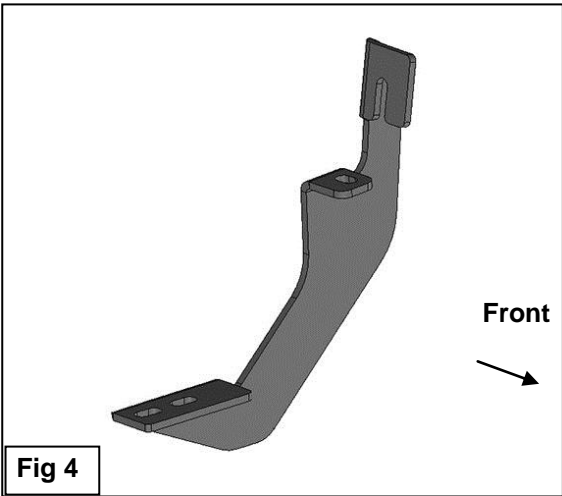

Fig 4
3. Select (1) Mounting Bracket, **(Figure 4)**. **NOTE:** All (6) Brackets are universal and will fit left or right side. Bolt the Mounting Bracket to the (2) Clip Nuts with (2) 8mm Hex Bolts, (2) 8mm Lock Washers and (2) 8mm Flat Washers, **(Figure 5)**. Snug but do not fully tighten the hardware.